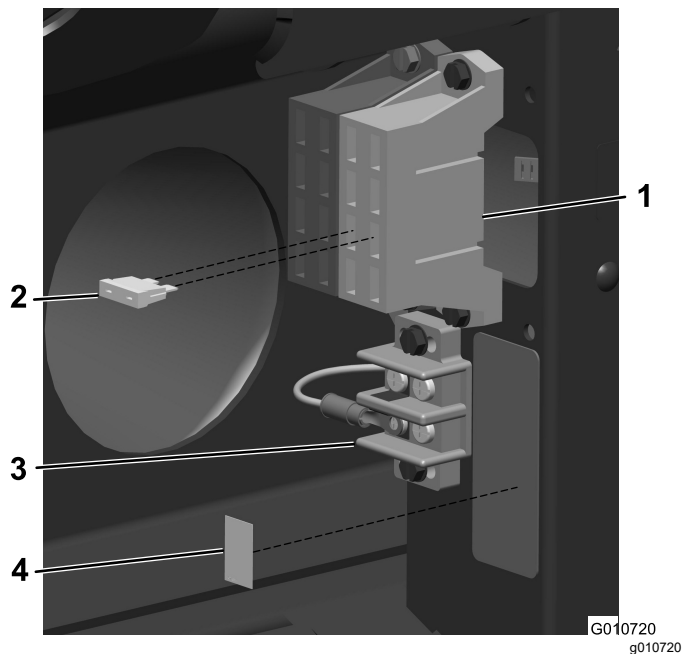

Figure 1
2. Plug the spade connector on the yellow wire into an open wire connector on the back of a fuse block (Figure 1).
3. Insert the fuse (15 A) into the fuse block location to which you connected the spade connector (Figure 1).
4. Connect the ring terminal on the black wire to the grounding block (Figure 1).
5. Apply the work light fuse decal (107-8011) in the corresponding open spot on the existing fuse decal (Figure 1).